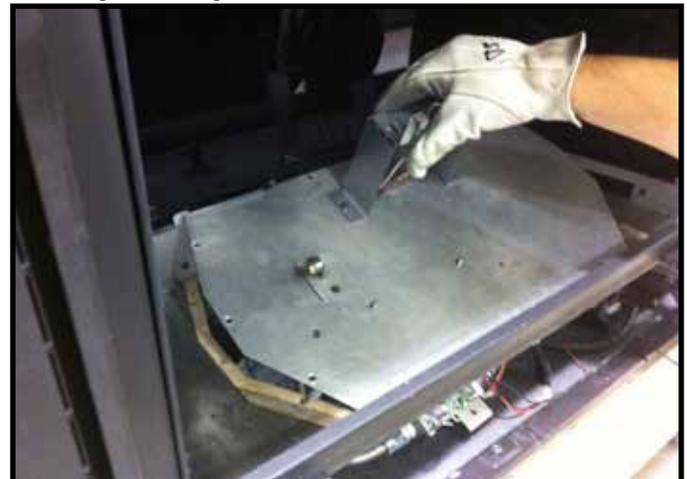

Figure 11.3. Remove Valve Plate
2. Lift the valve plate from the back so that the gas valve can clear the valve plate hole in the bottom the firebox. See Figure 11.3.